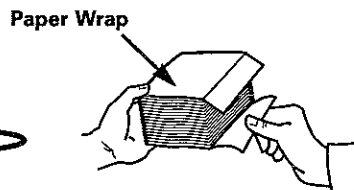

Figure 7
1. Remove tissue pack from protective paper wrap (Figure 7).